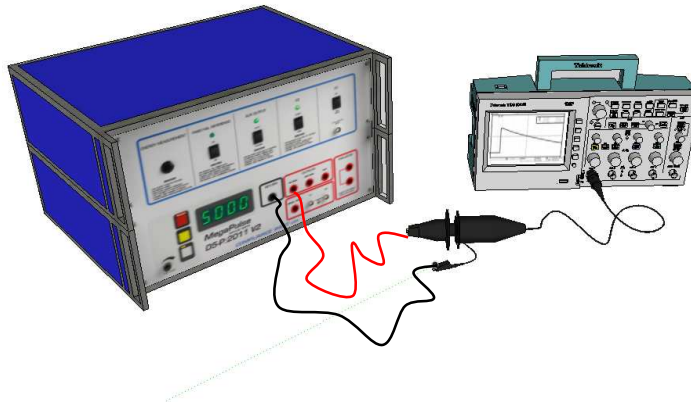

Figure 3. Waveform Measurement Setup – Image for reference only
3. Connect the ends of the test leads to an appropriate measuring instrument (typically an oscilloscope with a high-voltage probe). Note that the **RETURN** lead is referenced to the chassis ground of the tester. See Figure 3 as an example.